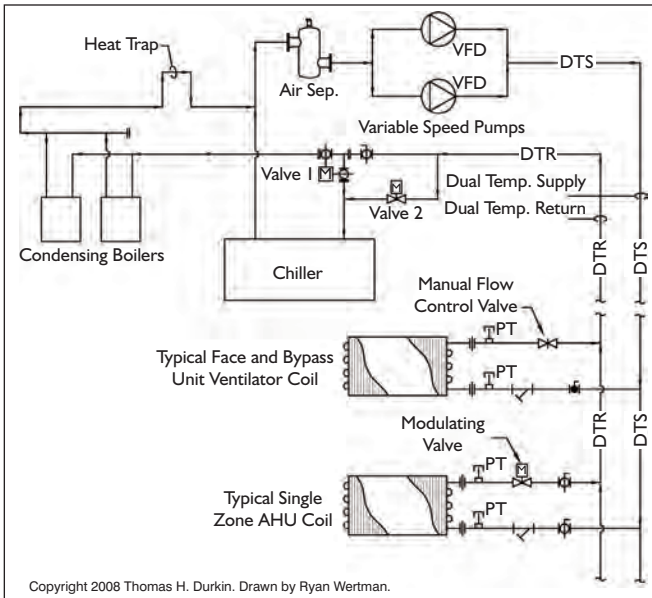

Figure 2: Two-pipe schematic.
Too many valves associated with changeover, hard to coordinate and maintain.	Design a schematic with only one changeover valve (Figure 2).
- Changeover time of 30 minutes (actual will be about 20 minutes, *Figure 2*);